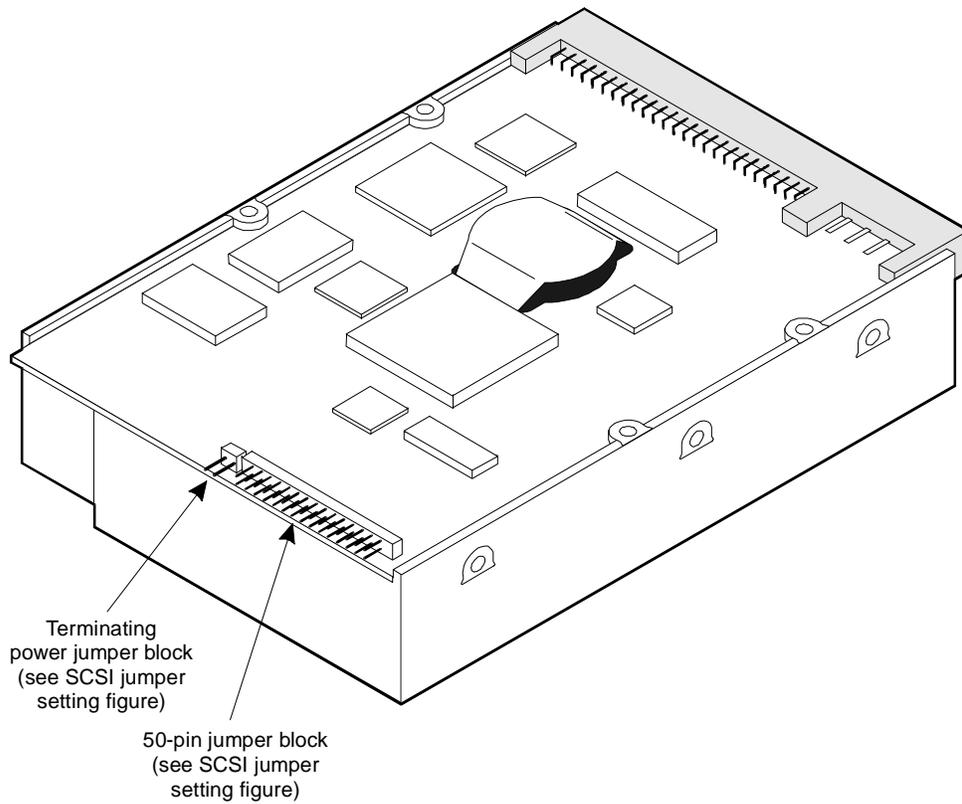
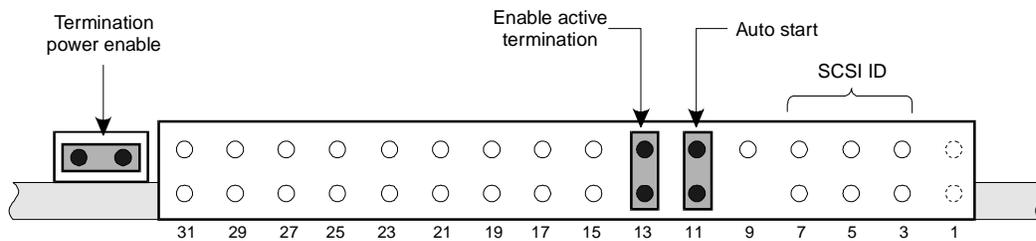

Figure 10-8. 2.0-Gbyte SCSI Hard Disk Drive
Figure 10-9. Jumper Settings for SCSI 2-Gbyte Hard Disk Drive
- If you are installing a 2-Gbyte SCSI disk drive, refer to Figure 10-8 and Figure 10-9 for the jumper settings.